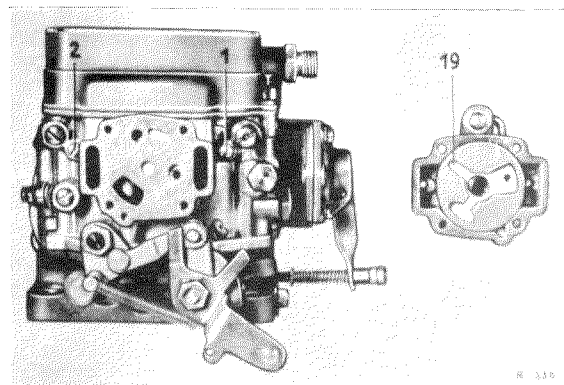

Fig. 07 — 3/4
31. **Fit the start mechanism with rotary slide valve into the lower part of the starter so that the fuel chamber (19) is at the top (Fig. 07 — 3/4).**
- 19 Fuel chamber (see also Fig. 07—0/7)